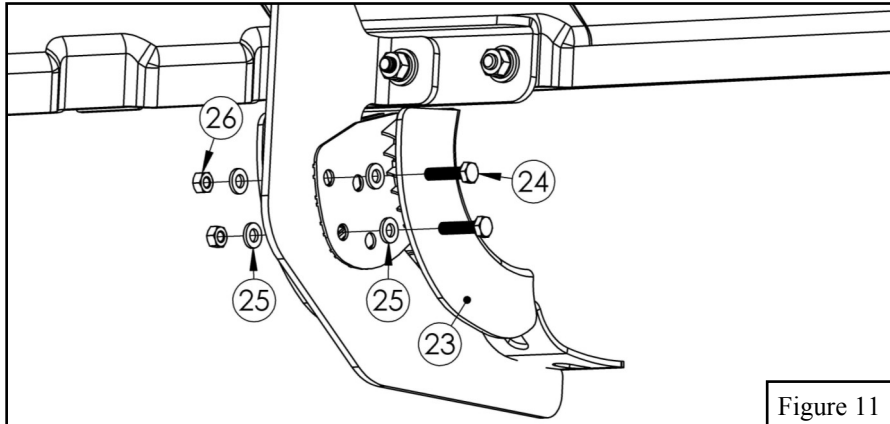

Figure 11
12. Locate (1) Plastic Bracket Cover (Item 23) and loosely secure it to the brackets using the provided hardware: (2) M6 hex head cap screws, (4) M6 flat washers, and (2) M6 nylon lock nuts. Repeat for every bracket. See **Figure 11**.